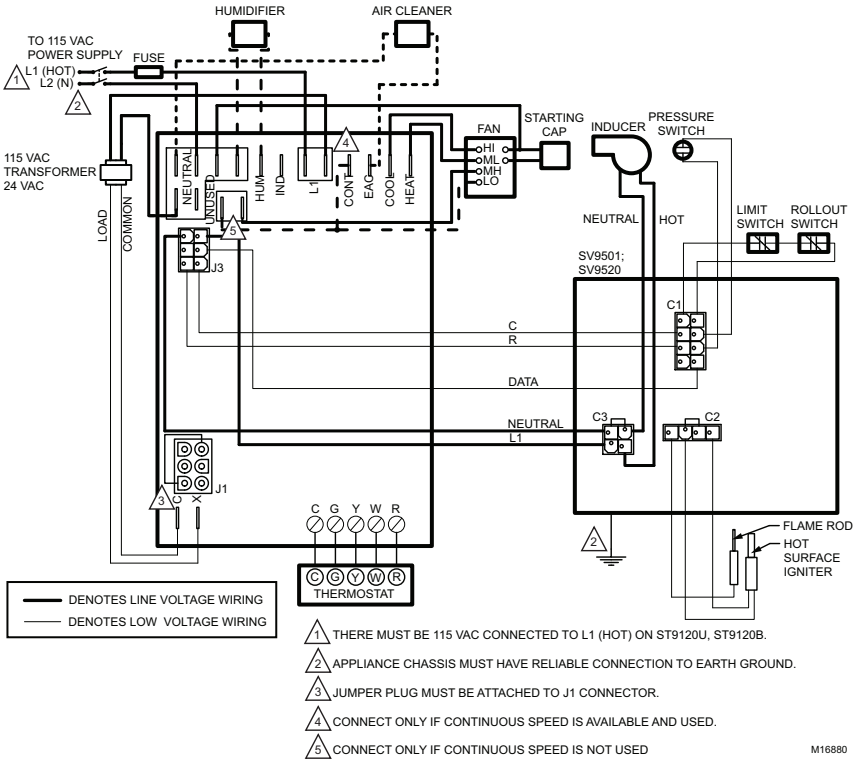

Fig. 5. Typical ST9120B,U wiring connections in ST9160 system with SV9510/SV9520 SmartValve™ Control.
5. Check proper connection using Fig. 5 or 6.
OPERATE THE SYSTEM THROUGH AT LEAST ONE COMPLETE HEATING CYCLE AND COOLING CYCLE TO MAKE SURE THE SYSTEM OPERATES PROPERLY. TROUBLESHOOT BY CHECKING FOR APPROPRIATE VOLTAGES AT THE ST9120U, ST9120B TERMINALS CONTROLLING THE COMBUSTION BLOWER AND HEAT AND COOL SPEED CIRCULATING FAN. THE ST9120U,B SCHEMATICS SHOW INTERNAL SWITCHING TO CLARIFY OPERATION AND ASSIST IN TROUBLESHOOTING. SEE FIGS 5 AND 6.
appropriate voltages at the ST9120B,U terminals controlling the combustion blower and heat and cool speed circulating fan. The ST9120B,U schematics show internal switching to clarify operation and assist in troubleshooting. See Figs. 5 and 6.